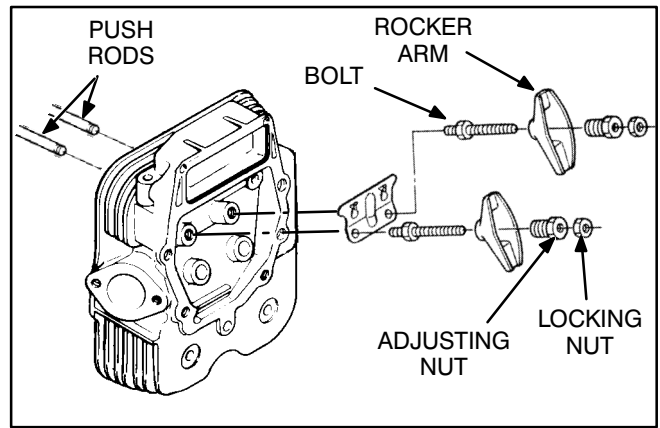

FIGURE 9-4. ROCKER ARM AND PUSH ROD REMOVAL
1. Remove the rocker arm mounting nuts, rocker arms and push rods (Figure 9-4).